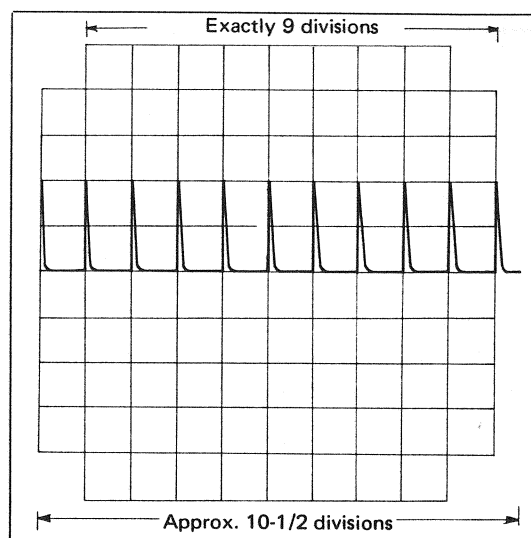

Fig. 11. Sweep Length
1. Adjust VR306 so that the 10 visible marker occupy exactly 9 divisions of horizontal deflection as shown in Fig. 11.